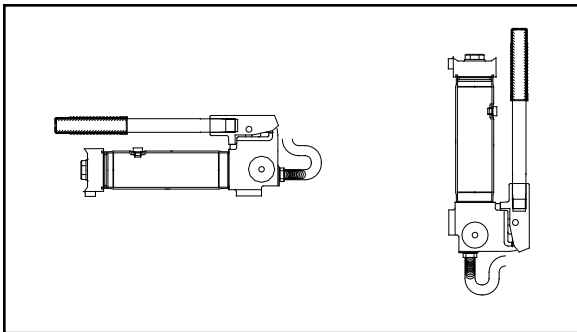

Figure 6 - Horizontal and Vertical Position
3. Pump may be used in horizontal and vertical position as illustrated on Figure 6.